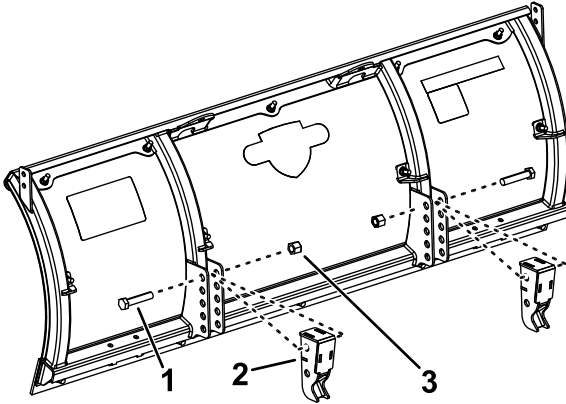

Figure 2
1. Attach the trip stops to the blade using 2 hex-head bolts (5/8–11 x 3 inches) and 2 nylon locknuts (5/8–11 x 3 inches) as shown in Figure 2.